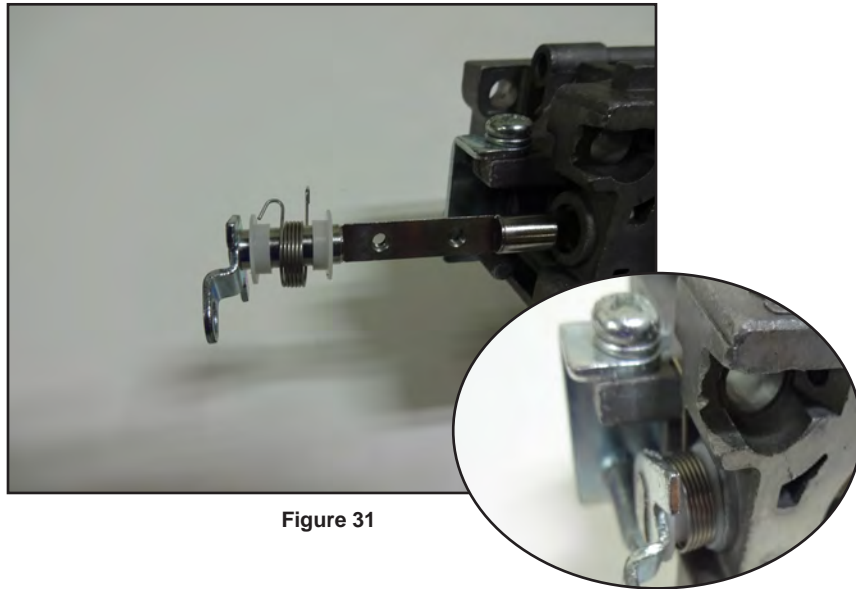

Figure 31
- Hook the long end into the hole of the carburetor body (Figure 31).